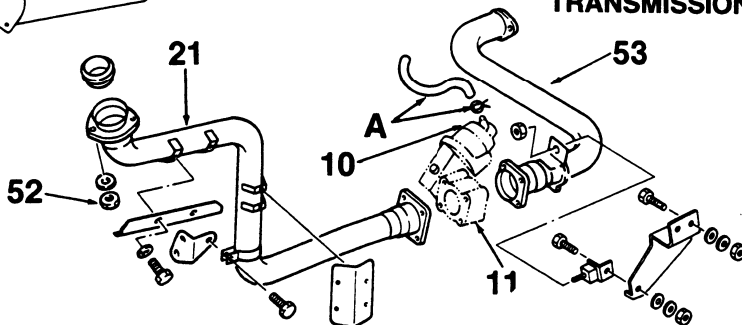

Figure 15. Engine Brake Valve
Refer to figures 15, 16, 17, 18 and 19.
- The exhaust brake valve (11), vacuum chamber (10) and related components are located at the left rear of the engine (figure 15).